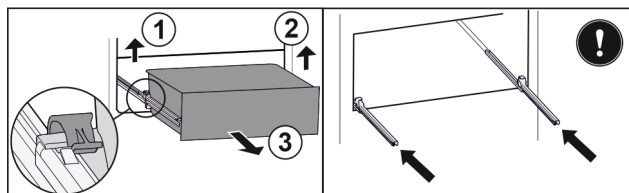

Fig. 139
- Lift left clamp and simultaneously pull drawer forwards on the left. Fig. 139 (1)
- Lift right clamp and simultaneously pull drawer forwards on the right. Fig. 139 (2)
- Remove drawer to the front. Fig. 139 (3)